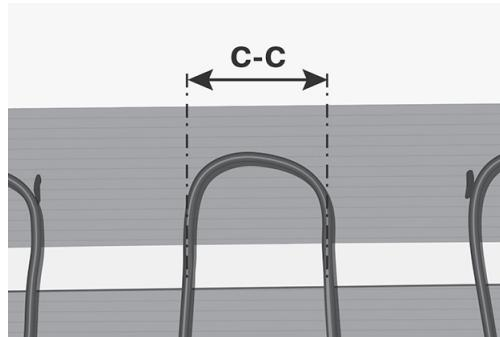

Fig.2. Measurement of C-C - centre to centre distance
**Important:** C-C is the distance from the centre of one cable to the centre of the next cable for each loop (Fig. 2).